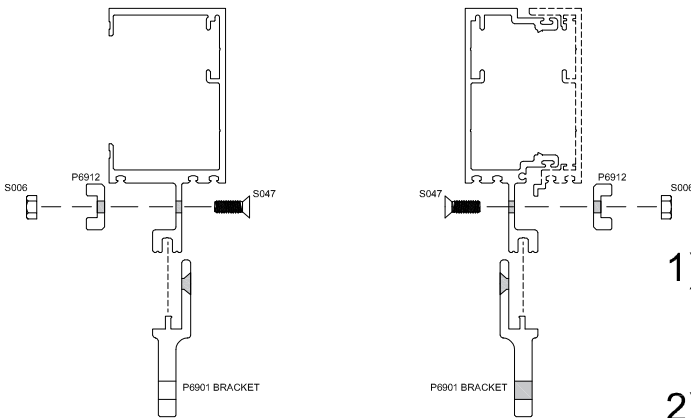

FIG. 2.10
- 2) Install bracket using P6901 sun shade bracket, P6912 backer bar and S047 bolt and S006 nut. FIG. 2.10.